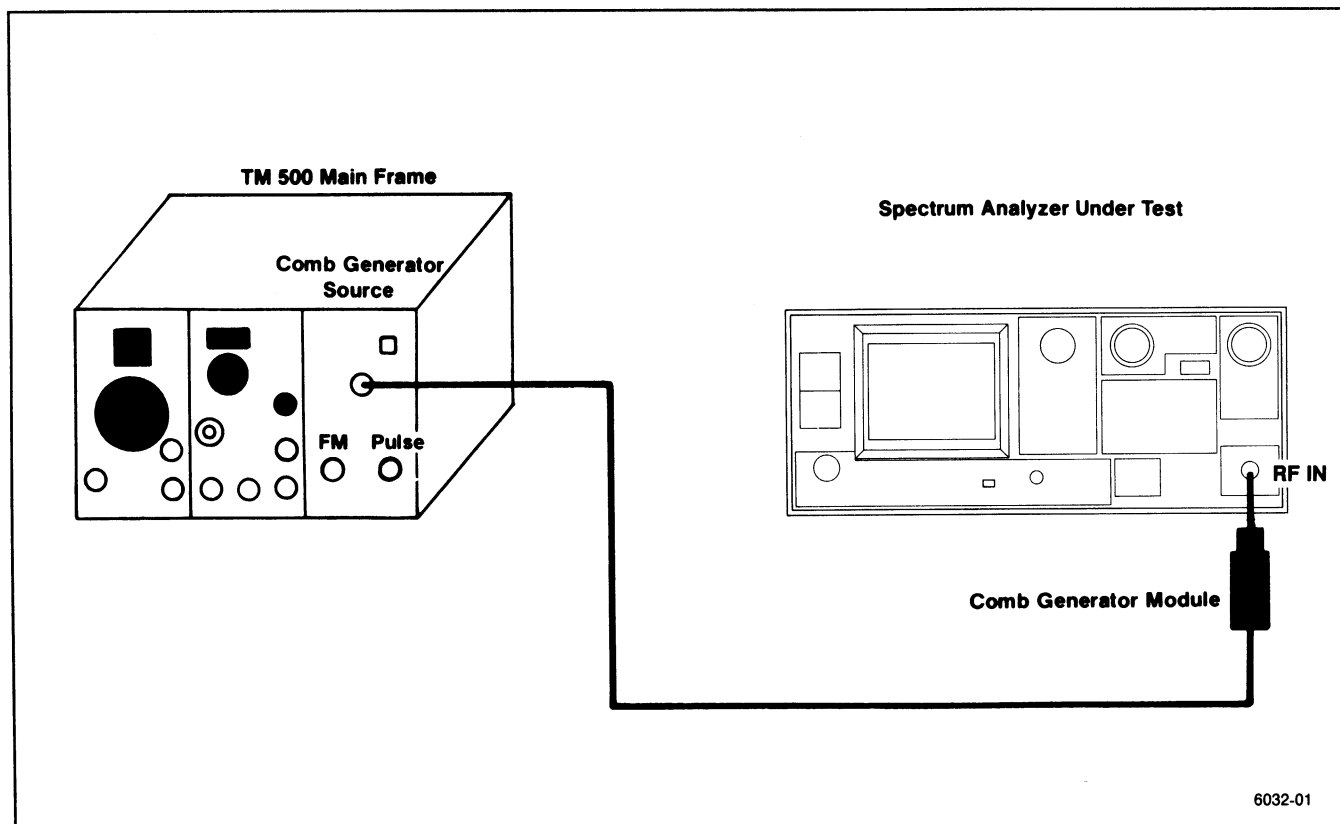

Figure 4-5. Test equipment setup for checking center frequency accuracy.
(1) Use a Frequency Counter and a Prescaler to measure the fundamental output frequency of the Comb Generator (Comb Generator source output excluding the Comb Generator Module).
(2) Make a note of the measured frequency, which is approximately 500 MHz. This is the fundamental frequency referred to in Table 4-2, and will be used to determine each center frequency checked.
(3) Connect the test equipment as shown in Figure 4-5.
(4) Set the Spectrum Analyzer controls as follows: